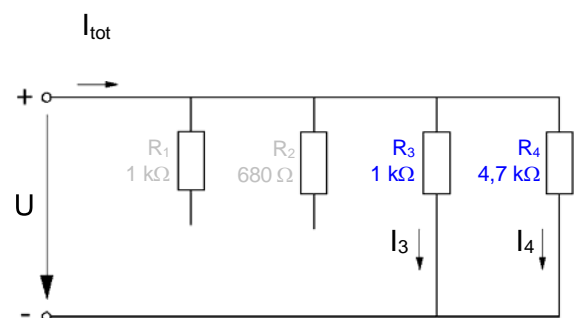

Fig. 3.2.3.1: Two resistors in parallel
- Remove resistors $R_1 = 1 \text{ k}\Omega$ and $R_2 = 680 \text{ }\Omega$ from the circuit (or a bridge, as in Fig. 3.2.3.1).